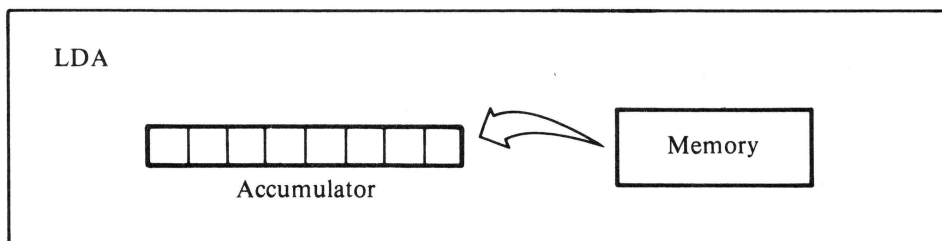

Figure 8-1. Load accumulator from memory
- **LDA** — Loads accumulator from memory. This transfers the contents of a memory location to the 6502's accumulator register (see Figure 8-1).